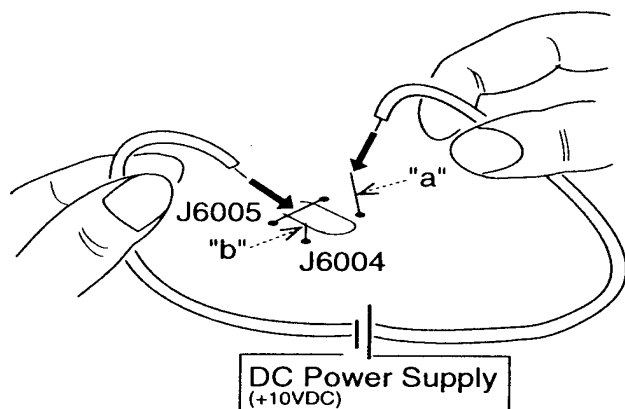

Fig 19 - Electrical Method (2)
2. Supply 10.0VDC to the jumpers (positive lead to point (a) and the negative lead to point (b) shown in Fig 19). When the loading posts reach the fully unloaded position, remove the power supply.